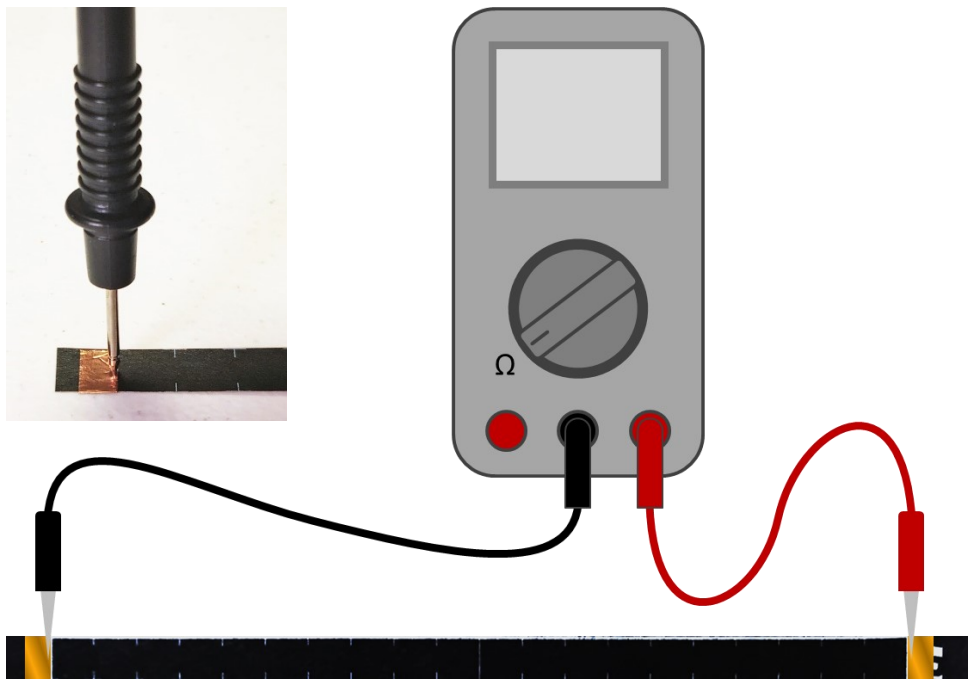

Fig. 4: Measure the resistance of the conductive paper strip by pressing the multimeter probe tips into the conductive tape at each end of the paper strip.
3. Measure the resistance of the conductive paper strip by placing one probe at each end, point down on the conductive tape (see Fig. 4).
Note: The resistance will vary slightly depending on where you place the probe tips. To minimize any error from this, try to place the multimeter probe tips in the same place on the conductive tape strips for each resistance measurement. In Fig. 4, the edge of the conductive tape was selected as the measurement point.